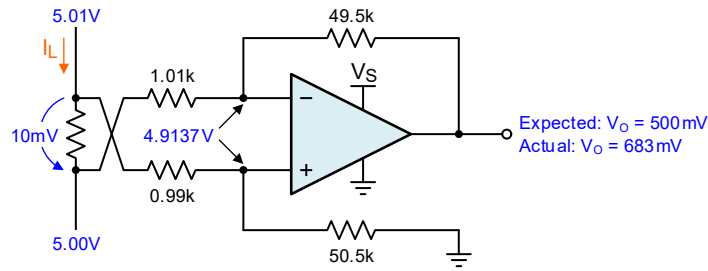
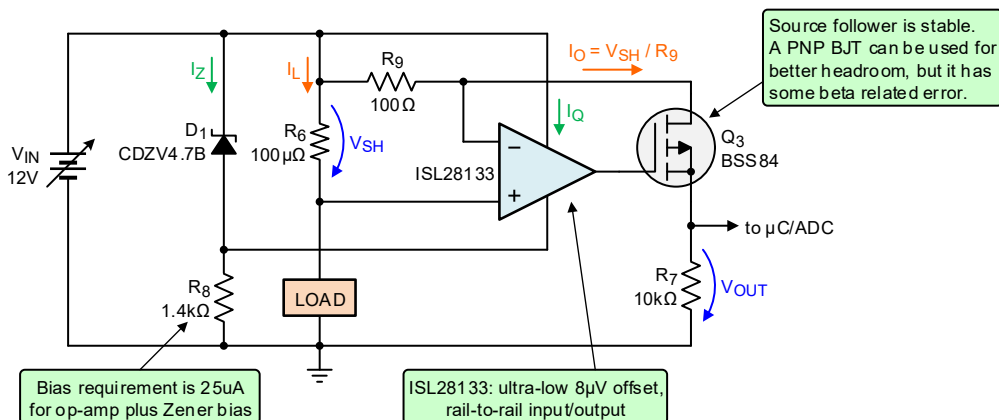
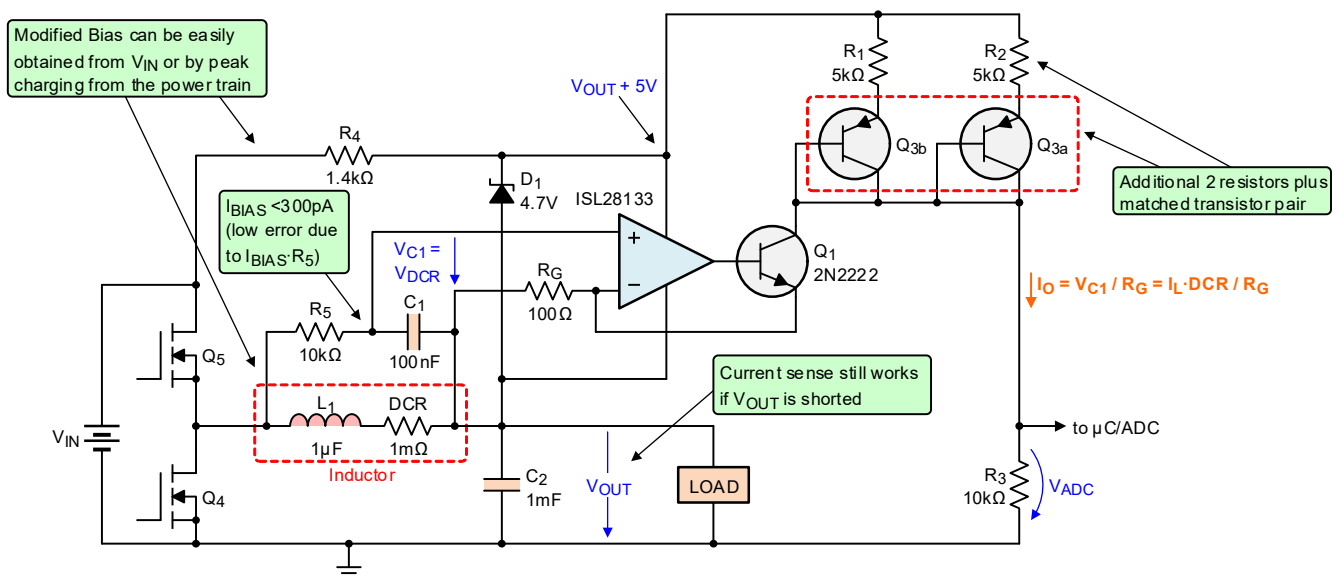
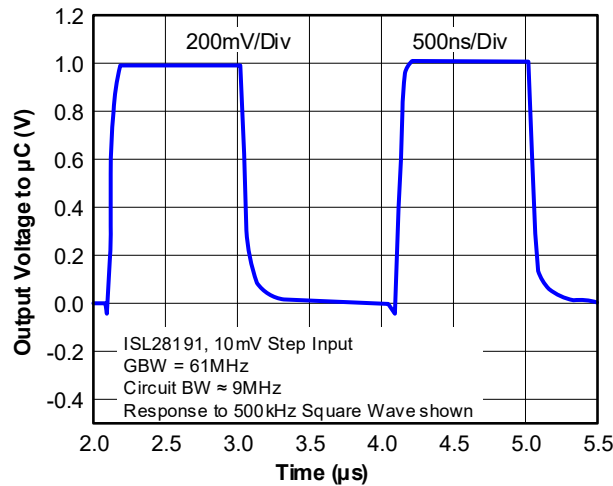

Figure 3. Differential Amplifier Configuration with 1% Tolerance Resistors
Figure 4. Simple Level Shift Circuit using a Low-Voltage Amplifier
Figure 5. Modified Sense Configuration using DCR Sensing in a Buck Converter
Figure 7. Simulated Response of the Circuit in Figure 5. The ISL28191 is used in Place of the ISL28133
Figure 3 shows this numeric example of the worst-case tolerance. The voltage at the non-inverting terminal of the amplifier is calculated to be 4.9137V based on the worst case values of 0.99k Ω and 50.5k Ω for the resistor divider and the voltage at the inverting terminal is the same by virtual null. The current in the 1.01k Ω resistor is
The remainder of this application note explores two circuit techniques (Figure 4 and Figure 5), which allow the use of conventional 5V op amps for sensing current on high voltage rails. A simple, low power consumption biasing scheme is used to power the amplifier. In addition, the gain-bandwidth of the overall circuit can be much higher than the gain bandwidth of the amp itself.
One circuit technique is shown in Figure 4. This example shows the shunt on a 12V rail being measured by the ISL28133 chopper stabilized amplifier. Because of negative feedback, the voltage across the shunt also appears across resistor R_9 , determining the current through R_9 . This same current flows through the drain and source of buffer transistor Q_3 and through R_7 , generating a voltage with respect to ground that is proportional to the high-side current. The total error in amplifying the shunt voltage is the error because of R_7 , R_9 and the offset voltage. With 0.1% resistors and the $8\mu V$ offset of the ISL28133, the error in sensing $10mV$ is $<0.3\%$. (0.1% from each resistor, $8\mu V/10mV = 0.08\%$ error from the offset). This is $>10x$ better accuracy than the differential amp in Figure 3.
The circuit in Figure 4 works extremely well, but it has two limitations explained as follows:
Figure 5 shows a modified version of the circuit in Figure 4, which resolves these limitations. This example shows the use of DCR sensing in a switching supply. To use this technique, a 5V bias that rides on top of the output voltage is required. In most switching supplies, this bias is usually easy to obtain from either a higher voltage rail or by peak charging from one of the switching nodes. Other changes from Figure 4 are that the op amp output buffer transistor (Q_1) has been changed to an NPN type and, to level shift to ground, a current mirror consisting of matched pair Q_{3a} - Q_{3b} and R_1/R_2 has been added.
Matched transistor pairs are commercially available in a single package with V_{be} matching of $\pm 1\text{mV}$. Proper sizing of R_1/R_2 can minimize the error because of V_{be} mismatch. When compared to the circuit in Figure 4, this circuit still has the additional inaccuracy because of resistors R_1 , R_2 , and the V_{be} mismatch. The overall error is likely to be 2x higher than the circuit of Figure 4 with components of similar tolerance.
Refer to the following notes regarding the circuits in Figure 4 and Figure 5.
- The buffer transistor Q_1 does relieve the gain-bandwidth restrictions of the op amp. The configuration in Figure 5 has a gain of $R_3/R_G = 100$ from V_{C1} to the output. Figure 6 shows the simulated frequency response of this circuit using the ISL28133. The gain-bandwidth of the amp is 400kHz, yet the overall circuit gain bandwidth is $100 \times 100\text{kHz} = 10\text{MHz}$. The buffer transistor improves the bandwidth without destabilizing the op amp.
Figure 6. Frequency Response of the Circuit in Figure 5 (The Input is 1mV at the Point Labels $V_{C1} = V_{DCR}$ in Figure 5. The Output is at the Point Labeled to $\mu\text{C}/\text{ADC}$)
- A higher bandwidth amplifier can be used to accurately replicate the current waveform in a switching power supply. The ISL28134 has a GBW (gain-bandwidth) of 3.5MHz and only 2.5 μ V offset. The ISL28191 has 61MHz GBW with a max offset of 630 μ V. Figure 7 shows the simulated response of the circuit in Figure 5, using the ISL28191 when a 10mV square wave is imposed across V_{C1} . The circuit amplifies the signal by 100x and replicates this 500kHz waveform with little loss of the higher frequency harmonics. This can be extremely useful for peak current detection in switching supplies.